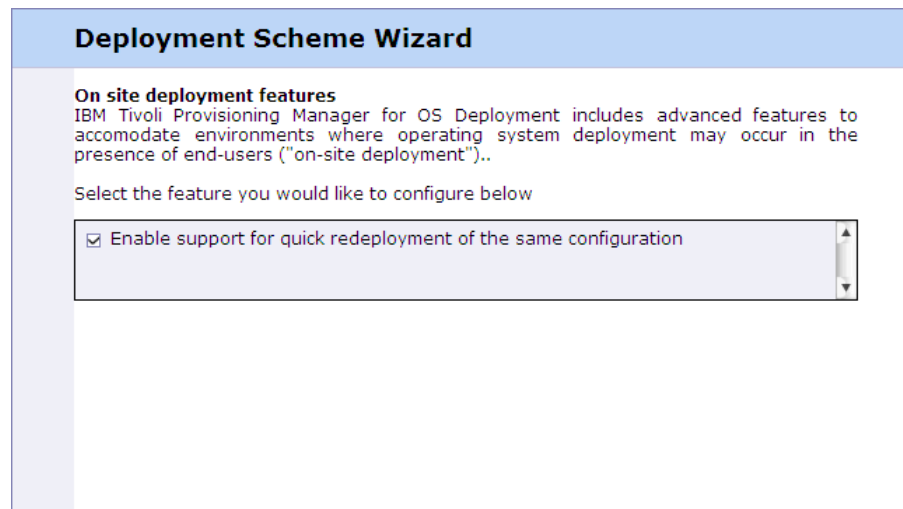

Figure 4-2 Enabling quick redeployment feature
1. To create a new deployment scheme, open the **OS Deployment** menu in the left panel and select **Task templates**. Then click the button **New Scheme**. This initiates the deployment scheme wizard. Start by giving the new deployment scheme a descriptive name, then click **next** and go through the panels and define deployment attributes as with any other deployment. When you reach the page for the On-site deployment features (Figure 4-2), select the support for quick redeployment.